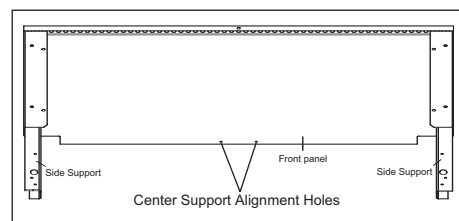

Figure 1
2. Attach side support legs inside of riser front panel, using supplied finishing screws (See Fig. 1 & 2).